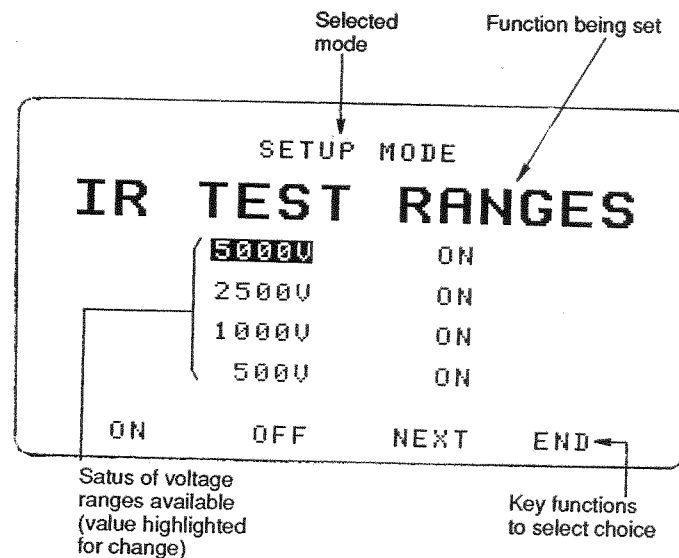

Figure 19 'IR TEST RANGES' screen from the 'SETUP MODE'
- Having chosen the simple or enhanced option the programme automatically moves to the 'IR TEST RANGES' screen as shown in figure 19. Four possible d.c. test voltage are given and each voltage can be switched on or off by the appropriately labelled keys; the 'NEXT' key selects the voltage options in turn.